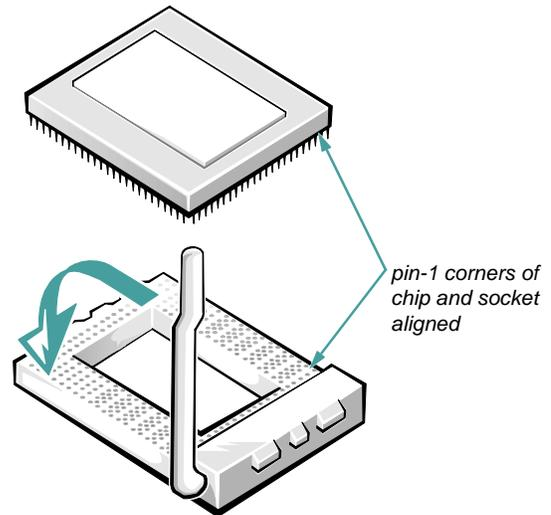

Figure 7-11. Installing the Microprocessor Chip
Pin 1 is located in the lower right corner of the socket as you face the “Socket 8” label (Figure 7-11).
8. **Install the microprocessor chip in the socket (Figure 7-11).**